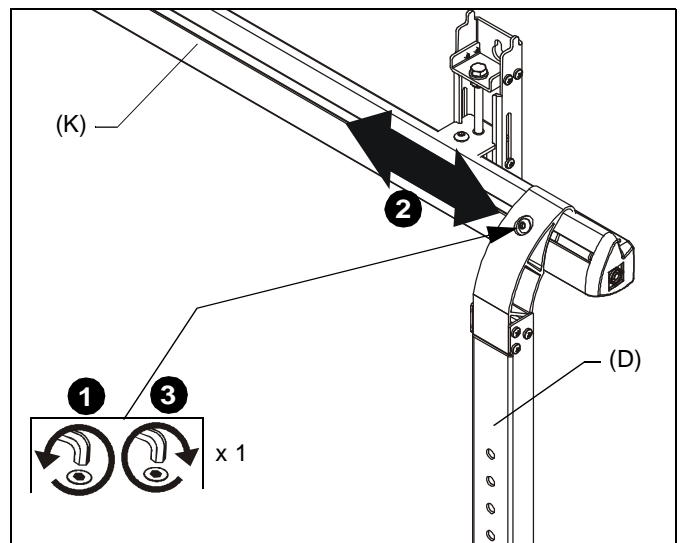

Figure 8
1. Loosen one button head cap screw at top of upright assembly (D). (See Figure 8)
2. Slide upright assembly left or right on wall assembly (K), as necessary. (See Figure 8)
3. Tighten button head cap screw to fasten upright assembly into place. (See Figure 8)